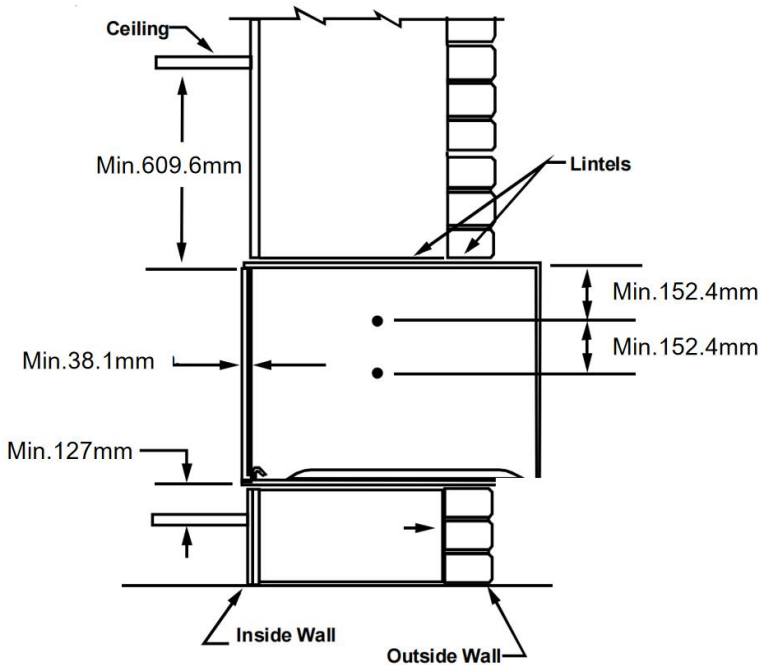

Figure 2
2. The wall sleeve must be installed with a 127mm minimum clearance to the floor and 38.1mm to adjacent walls. See Figure 2 for minimum projections of the sleeve into and out of the room.